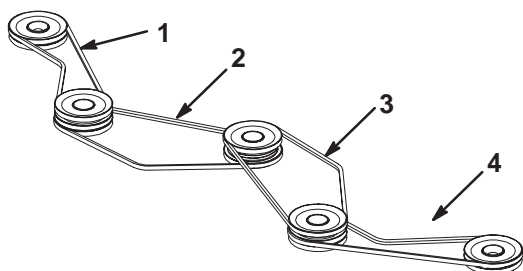

Figure 66
5. Replace belt(s) as required. Install on pulleys as shown in figure 66.